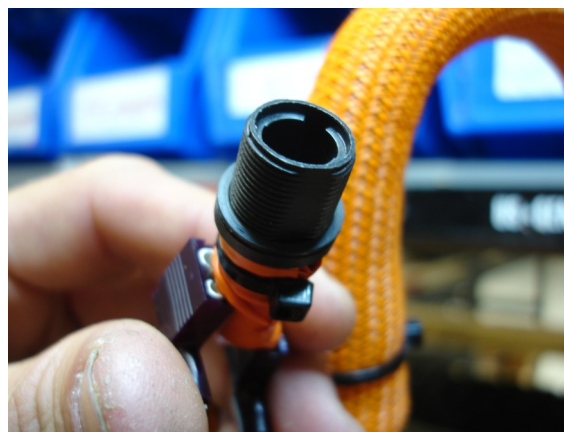

Figure 22
14. Remove three fuses and locknuts from fuse holders on HARN X MBB CTRL CHS 2XMOD MY13 (ITEM 9) (x3). See FIGURE 22 for finished example.